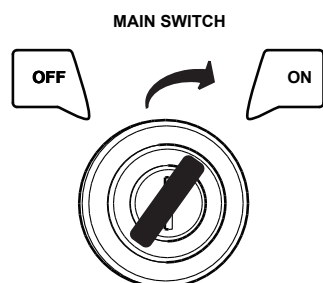

Figure 21. Main Switch (ON Position)
1. Turn the main switch (ignition switch) key to the **ON** position (Figure 21).